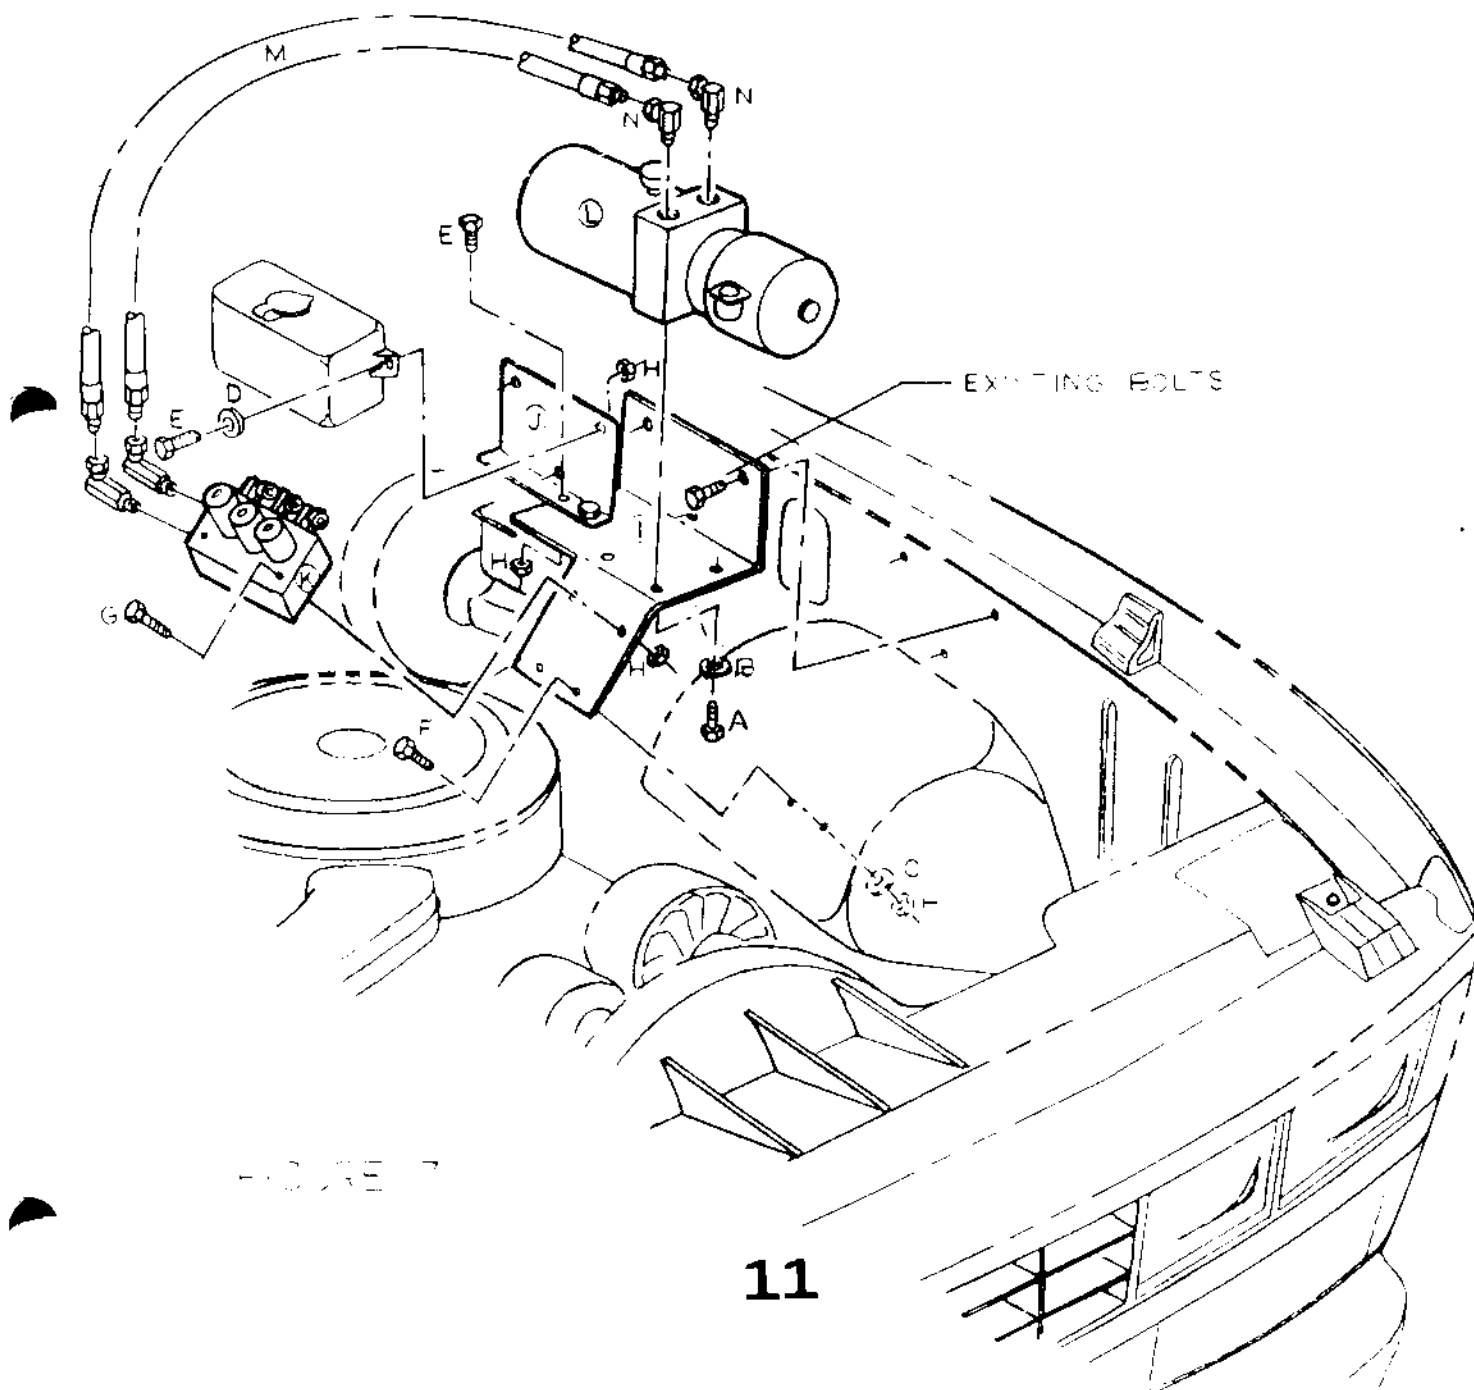

FIGURE 7
The pump mounting procedure below is for all Chevrolet trucks 1988 and newer. You will need to refer to Figure 7 (Page 11) to familiarize with the pump mounting location and components.
1. Assemble the pump mount and the washer bottle mount with the indicated hardware (Items I & J Figure 7).
3. Mount the washer bottle to the washer bottle mounting bracket (Item J Figure 7) using the indicated fasteners.
4. Bolt the pump mounting bracket to the vehicle using the three (3) flat washer bottle mounting bolts as shown in Figure 7.
6. Install the power unit (and valve body if this is a V-PLOW installation) as shown (Motor towards the front of the truck) in Figure 7 using the indicated fasteners.